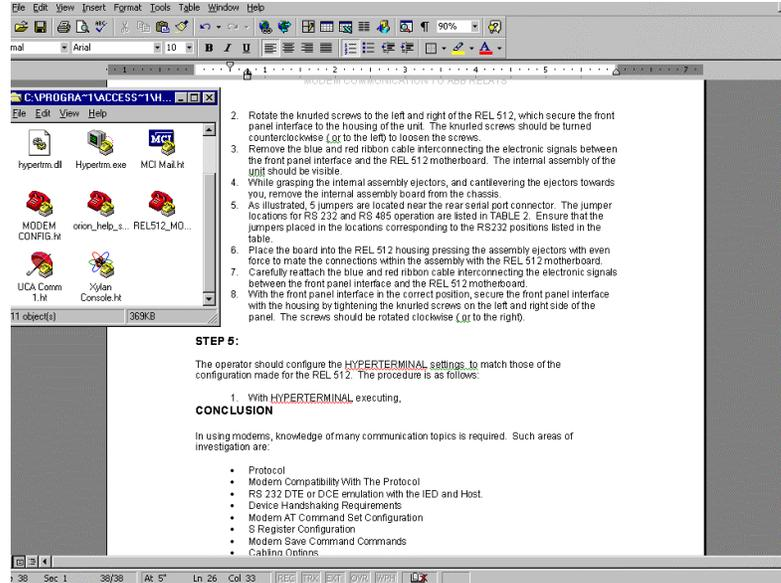

Figure 43. Hyperterminal Selection Screen
1. Select HYPERTERMINAL from the WINDOWS menu to reveal the following screen illustrated in Figure 43.